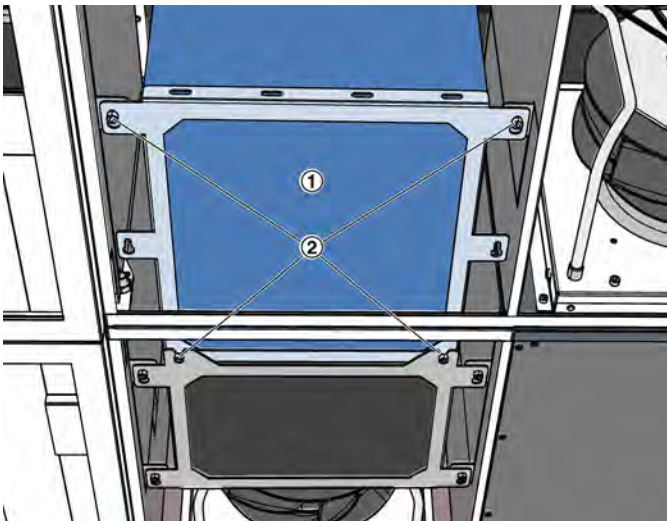

Fig. 22: Inserting the sound attenuator
20. ▶ Insert the sound attenuator (Fig. 22 /1) and fix it into place with 4 screws (Fig. 22 /1).